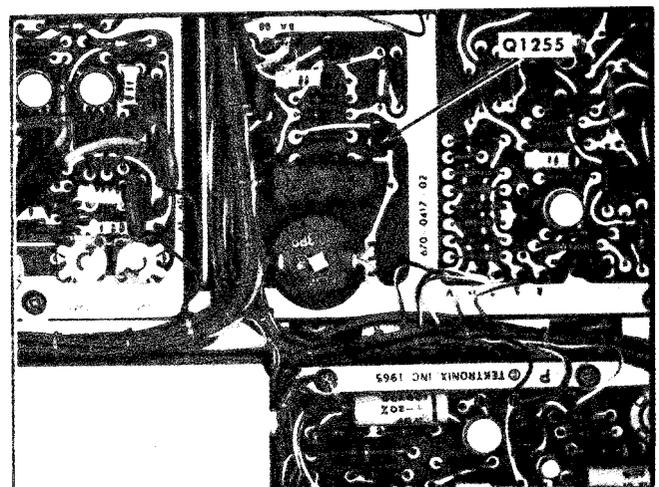

Fig. 6-5. Location of Q1255 (Calibrator section of A Sweep circuit board).
- b. Remove Q1255 [see Fig. 6-5) from the Calibrator section of the A Sweep circuit board.